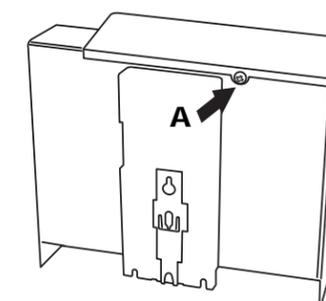

Figure 1.2
- 3 Release the cover by undoing the securing screw ('A' in figure 1.2). Retain the screw and shakeproof washer for use in re-assembly.